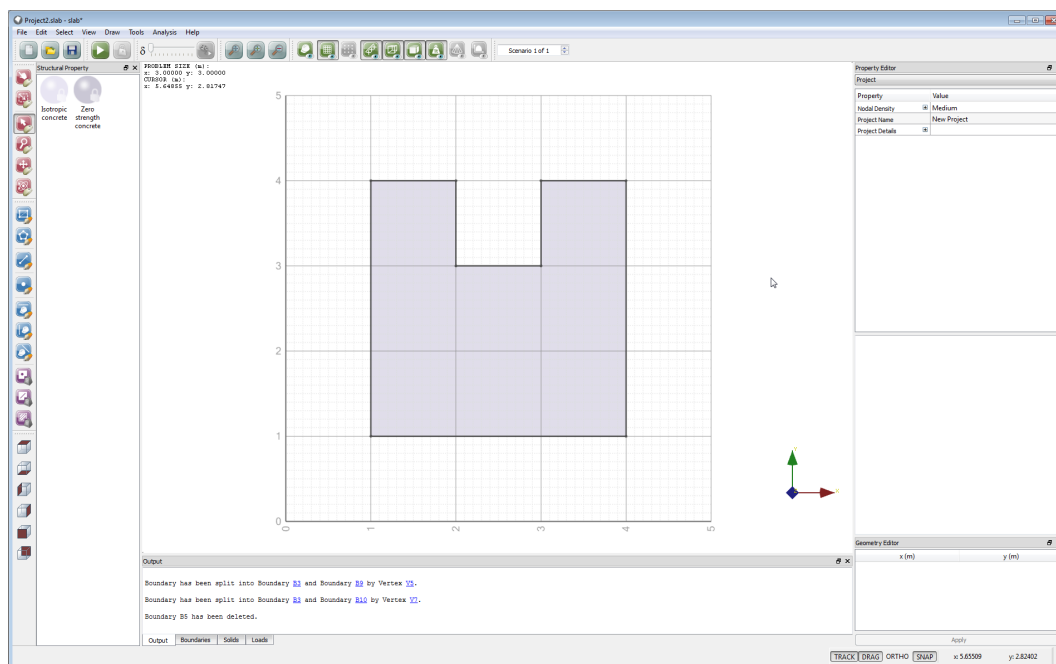

Figure 3.4: Remove a section of the slab, also using the 'Draw Rectangle' functionality.
- ▷ Press DELETE on the keyboard (alternatively, click the  icon in the top toolbar). The small square will now be removed from the problem as shown in Figure 3.4.